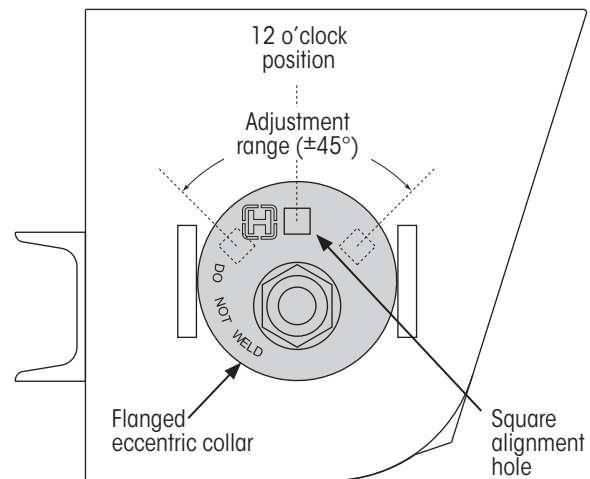

Figure 24: Eccentric collar orientation details
3. **Inspect** the orientation of the square alignment hole in the flanged eccentric collar (Figure 24). The square alignment hole must be at the 12 o'clock position, which is the middle of the alignment adjustment range.